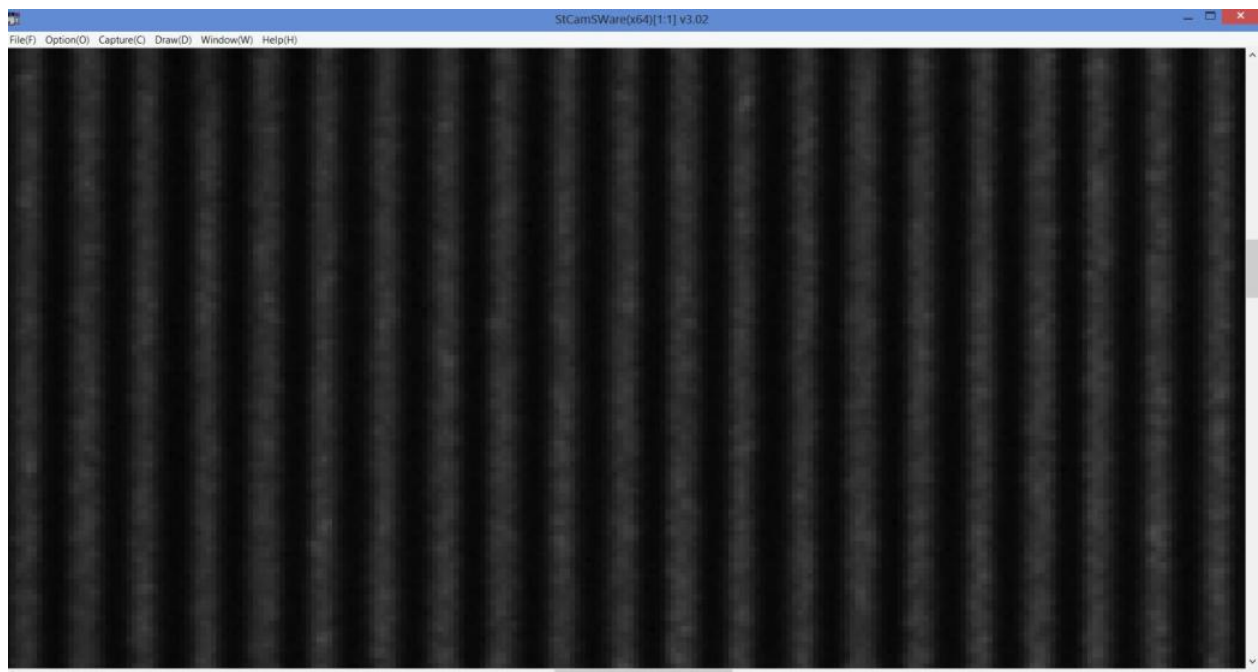

Figure 51 Image A
50. Verify the Fringe pattern image sharpness are approximately similar to Image A (Figure 51)
- b. If Image B is obtained during the verification, please re-adjust the “Focus adjustment” of projector by refer to “Size 8” at Stcamsware GUI until Image A (Figure 51) is obtained. Once completed, please re-verify the sharpness image at “Size 1” at Stcamsware GUI as Figure49.